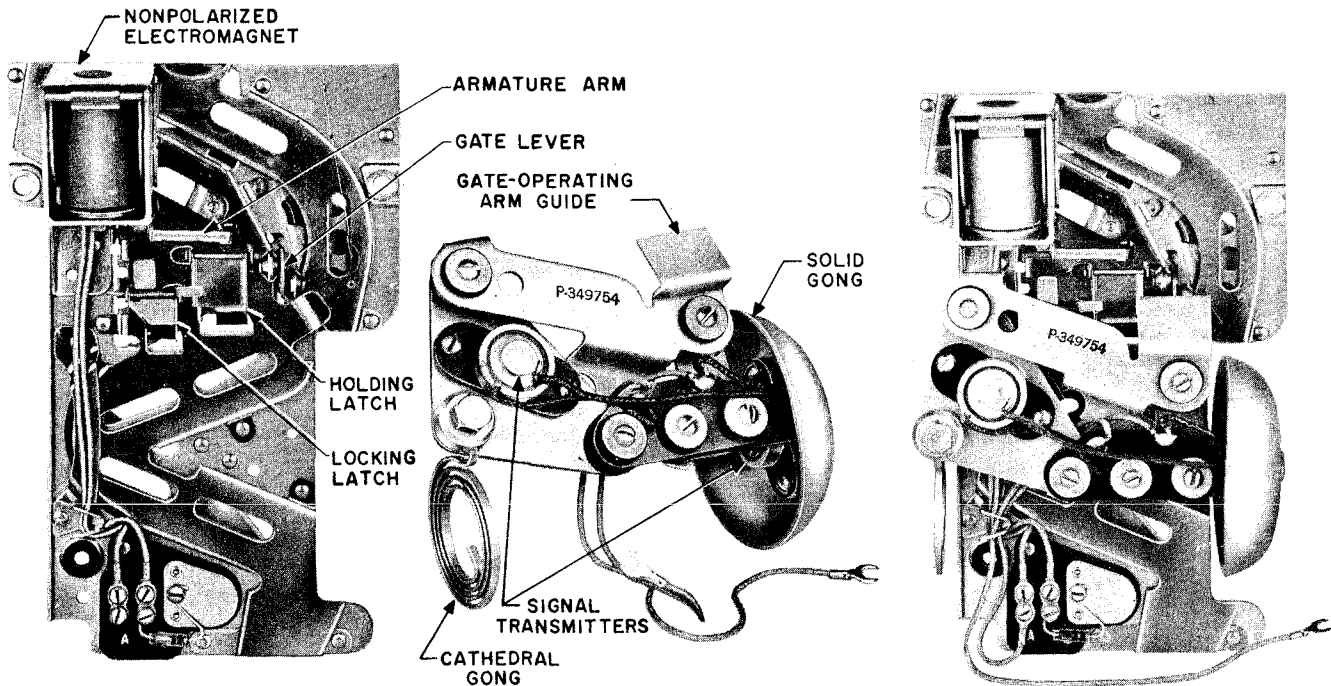

Fig. 3 — Coin Chute and Assembly
3.06 Generally, the coin-chute assembly consists of a coin chute, including electromagnet, and a gong assembly with signal transmitters, as shown in Fig. 3.
3.09 Ten-cent operation requires a minimum deposit of two nickels or one dime to initiate a prepay call, or to complete a dial postpay non-free call. To provide for this service, the nickel channel is equipped with a holding latch which is controlled by a locking latch (see Fig. 3). The first nickel deposited is stopped and held by the holding latch. A second nickel deposited is deflected by the first nickel into the locking latch. The locking latch is operated by this coin, releasing the first nickel at the holding latch. The two coins pass on down the channel in succession, each striking the solid gong and dropping into the coin hopper.
3.17 The gong assembly is mounted on the coin chute, as shown in Fig. 3. It consists of a supporting bracket on which are mounted the two gongs and their associated signal transmitters. The solid gong for nickel and dime signals and one signal transmitter are mounted on a metal plate. The cathedral gong for quarter signals and the second signal transmitter are mounted on a bracket. The two units are insulated against vibration from each other and from the coin chute by use of rubber grommets at all mounting points. The support bracket also provides a guide to protect the switchhook gate-operating arm from damage when the upper housing is assembled on the backplate.